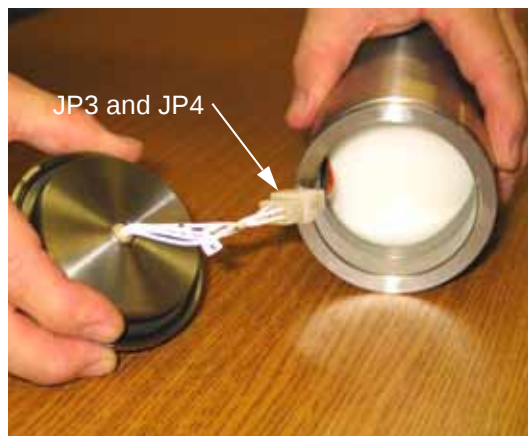
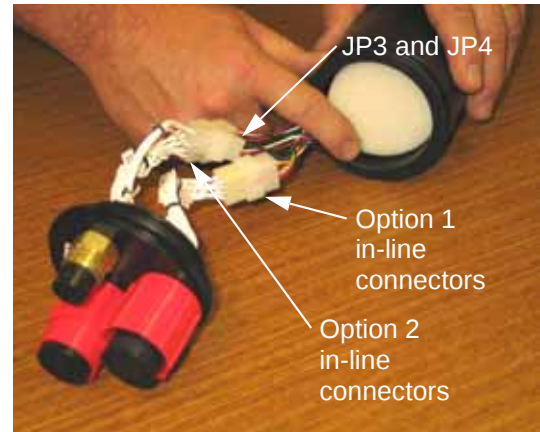

Figure 6-10: Connecting the JP3 and JP4 In-Line Connectors
Figure 6-11: Connecting the JP3 and JP4 In-Line Connectors, with Options Connectors
- 8 Push the battery pack into the housing as far as it will go, and then insert the second foam pad over the battery pack and connect the in-line connectors JP3 and JP4 as shown in Figure 6-10. If the Option 1 and Option 2 connectors are installed, refer instead to Figure 6-11.